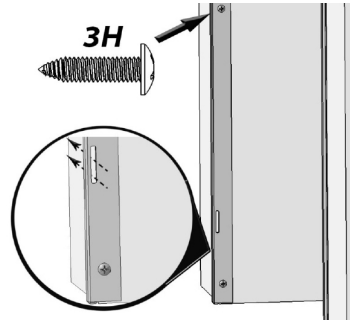

Fig. 9
5. Using eight 3H screws and a power drill, attach the 2 Side Trim Attachment brackets to the front left and right cabinet cutout edges with the brackets touching the floor (Fig. 9). Ensure the rectangular slots extend over the cabinet edge.